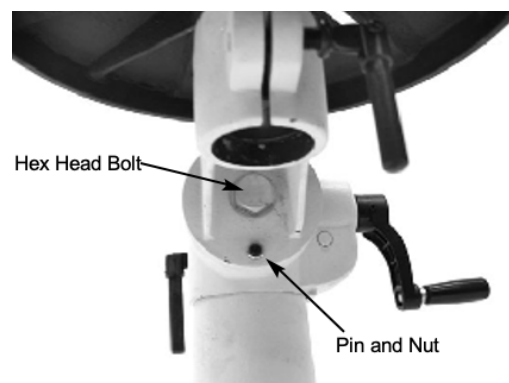

Figure 23
- Clamp table securely after adjustments have been made. (See Figure 23). To control the drilling depth, loosen the hub lock knob and rotate the hub until the desired depth coincides with the pointer. Pull the knob to secure the hub in position. Use this function to drill more than one hole of the same depth.